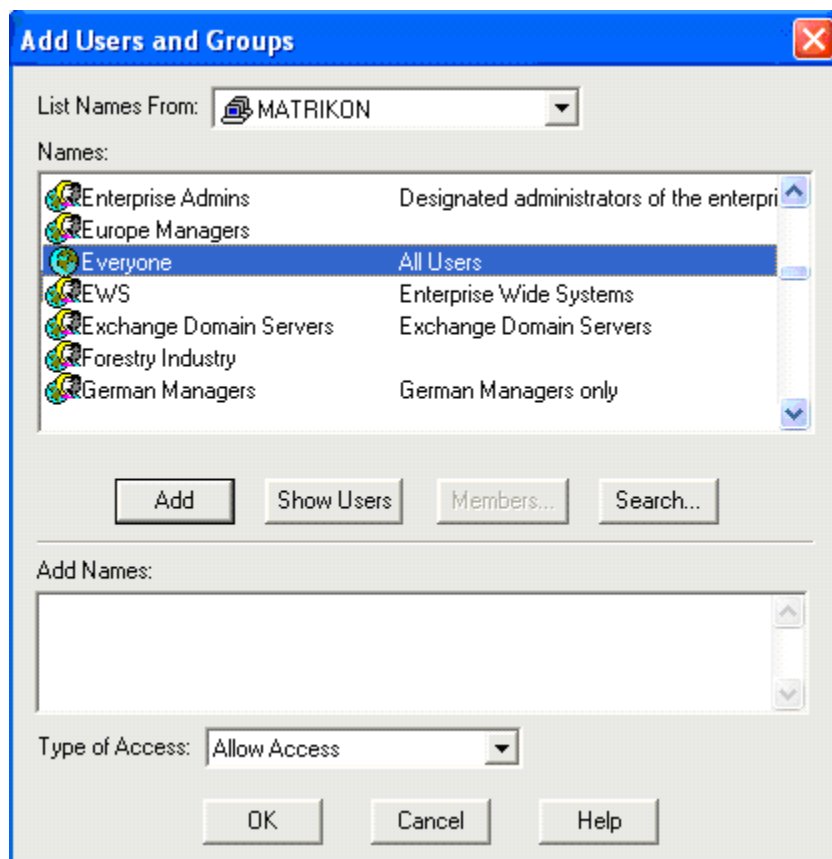

Figure 71 - Add Users and Groups Window
10. The **Add Users and Groups** window (Figure 71) appears.